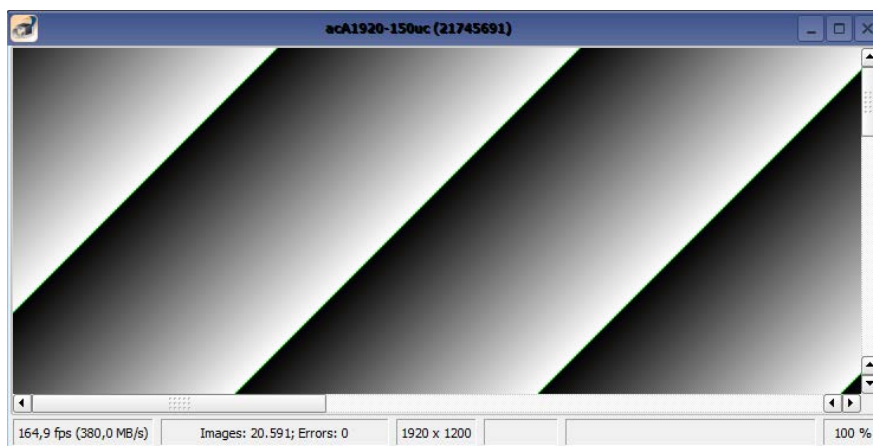

Figure 3: Test Image 2
- Regular image acquisition stops. Instead, test image 2 is generated (see Figure 3).